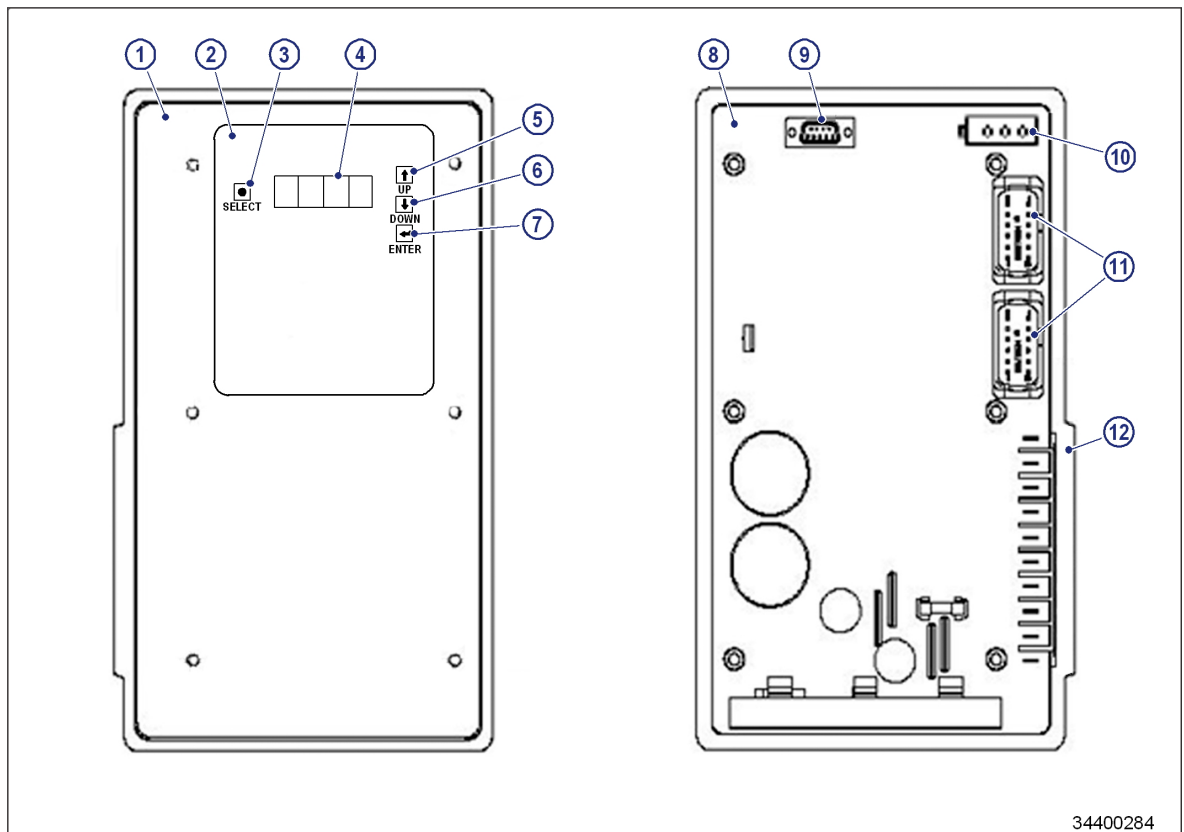

Figure 6: Digital voltage regulator panels
The figure (→ Figure 6) shows the front panel and the rear panel of the digital voltage regulator.
* Numbers correspond to (→ Figure 6).